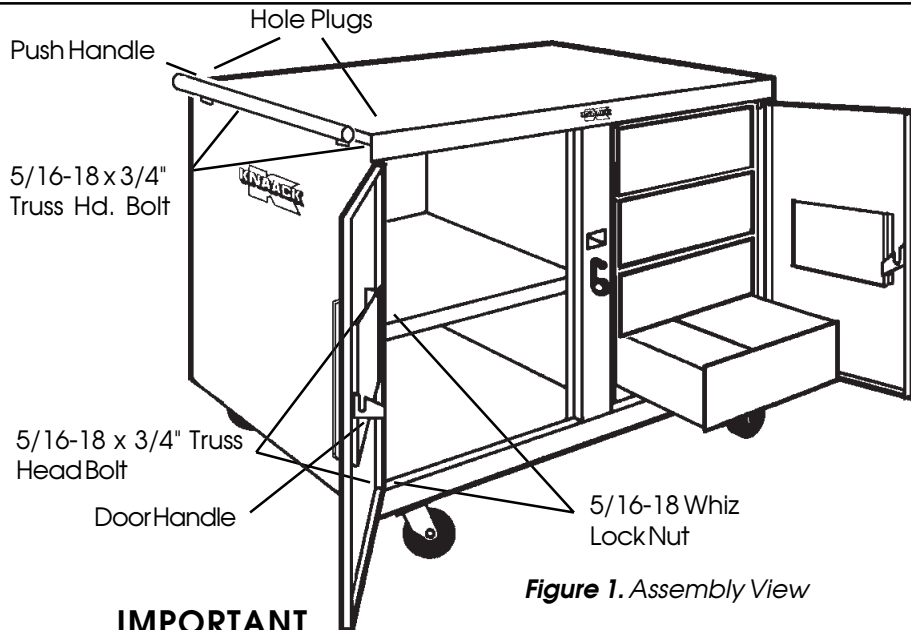

Figure 1. Assembly View
1. Remove the caster box, handles, and bolt kit from the cabinet. Attach the Door Handles (Figure 1.). Insert Hole Plugs in the Push Handle and attach to the end.